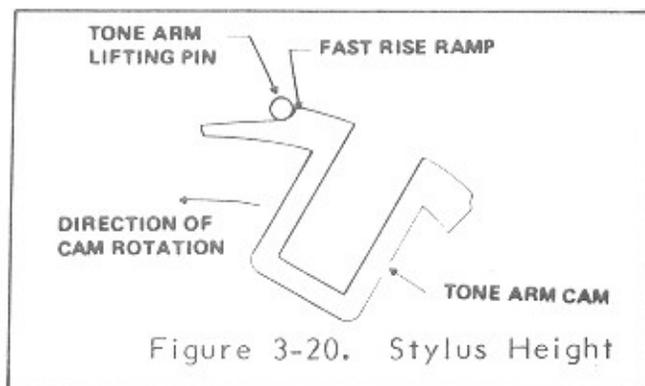

Figure 3-20. Stylus Height
2. Turn auto cancel screw until stylus holder is flush to $1/64$ inch above turntable pad surface with tone arm in play position (See Figure 3-20.).